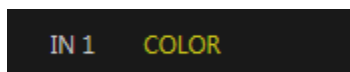

FIGURE 20
*Note: Custom settings in the Color tab trigger a COLOR notification message that appears in the footer below the viewport of the channel (Figure 20).*